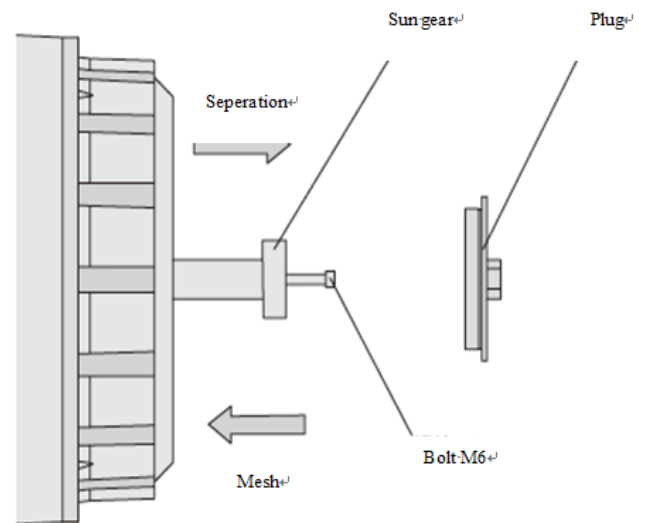

Figure 4-4 Separation of drive hub
4. Rotate the drive hub cover in reverse direction to separate the hub, as shown in Figure 4-4 Separation of drive hub.